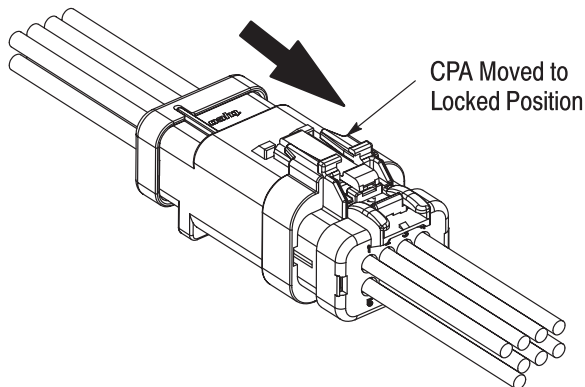

Figure 8
7. By pushing the CPA toward the plug housing, it can be slid into the locked position in which it covers the tip of the connector latch. See Figure 8.